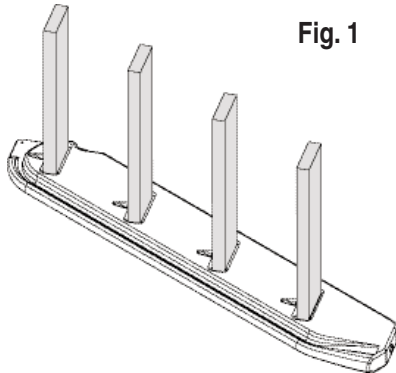

Fig. 1
2. Insert three 2" x 6" x 23½" (Bronze) or 2" x 6" x 18" (Gold) standard steps into the remaining holes until they are flush with the outside of the side rail. **(Fig. 1)**